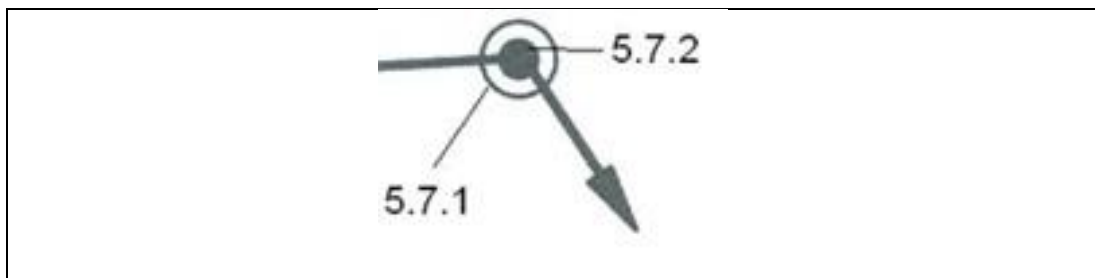

FIGURE 5.7
5.7 What is the meaning of the welding symbol, as indicated in FIGURE 5.7?